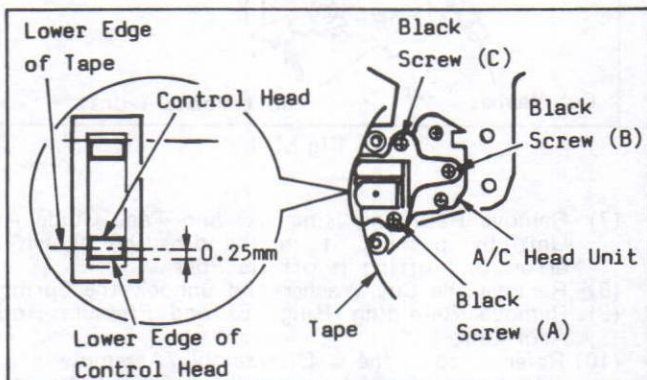

Fig. M20
- If adjustment is required, turn Black Screw (B), in Fig. M20, counterclockwise until curling is apparent at lower edge of T3 Post. Then turn Black Screw (B) clockwise until the curling smoothes out.
- Adjust Black Screw (C) on the A/C Head Base in Fig. M20 so that the output level is at a maximum.
- Readjust Black Screw (A) shown in Fig. M20 for maximum output.